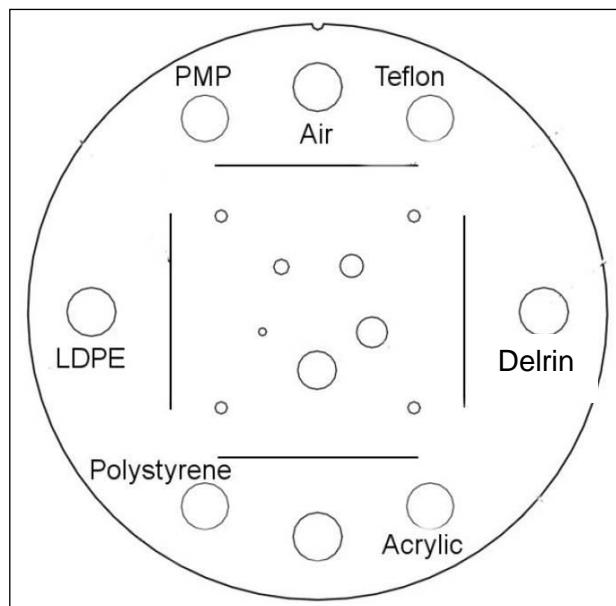

Figure 45: Catphan Phantom
7. Using mouse, right click on the ROI and select 7×7 mm. Use mouse to drag and placed ROI within the homogenous substance of the Catphan Phantom specify in the data table (see Figure 45)